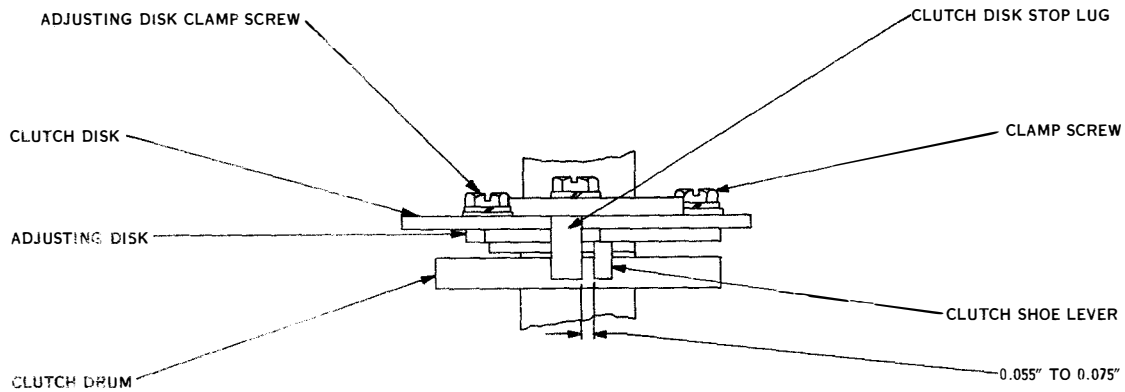

Figure 7-77. Clutch Shoe Mechanism
(9) CLUTCH SHOE MECHANISM. (See figure 7-77.)—The gap between the clutch shoe release lever